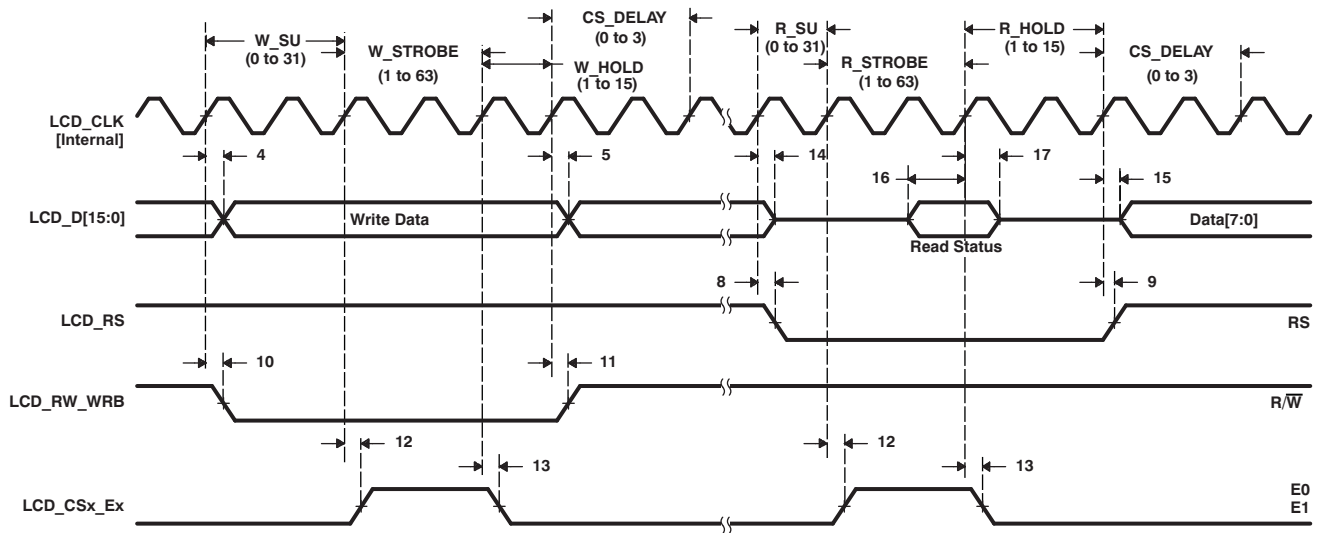
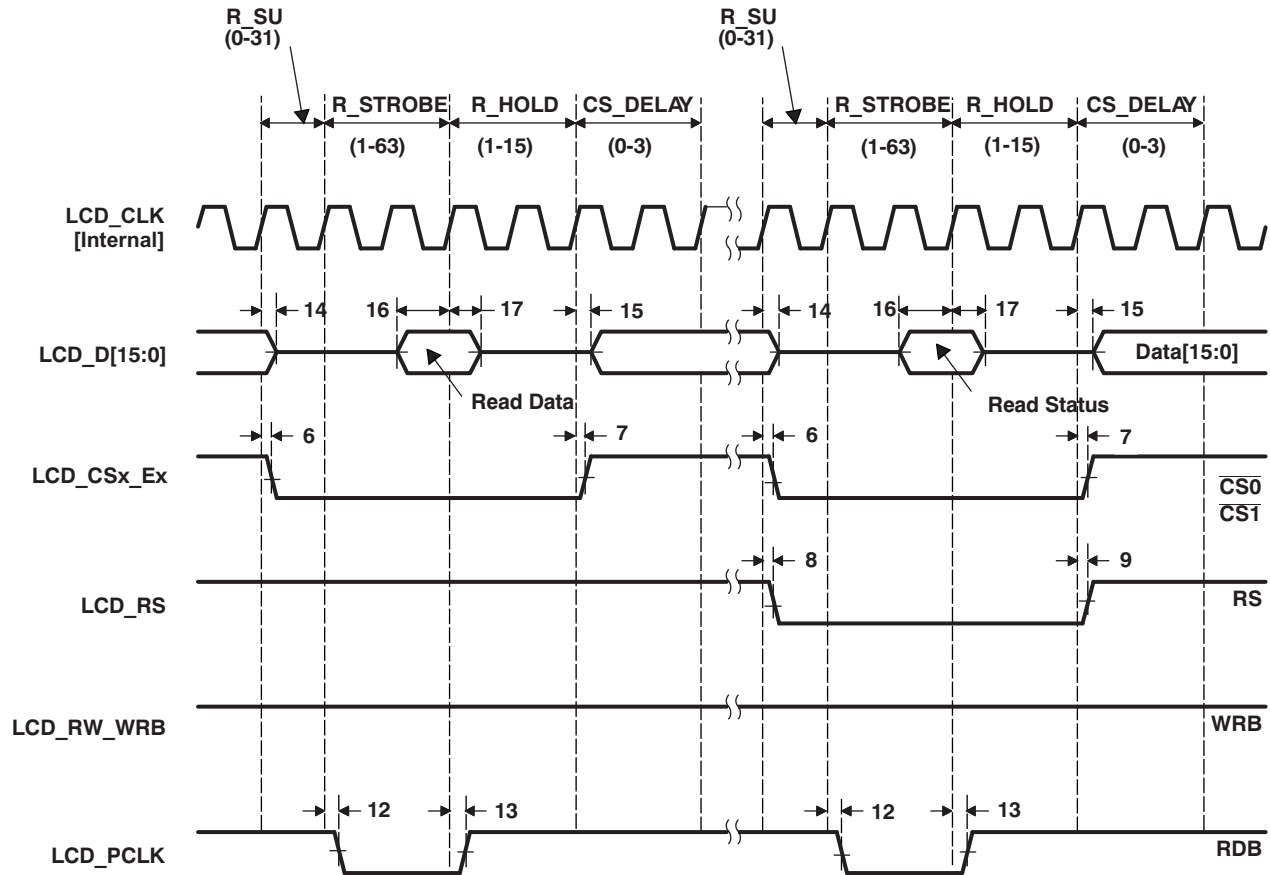

Figure 5-31. Character Display HD44780 Write
Figure 5-38. Micro-Interface Graphic Display 8080 Status
**Table 5-41. Timing Requirements for LCD LIDD Mode(1) (see Figure 5-31 through Figure 5-38)**
(1) Over operating free-air temperature range (unless otherwise noted)
**Table 5-42. Switching Characteristics Over Recommended Operating Conditions for LCD LIDD Mode (see Figure 5-31 through Figure 5-38)**